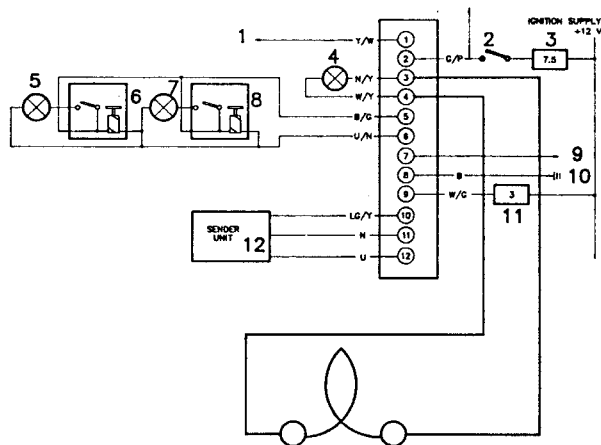

Figure 10
2. Connect a 12 volt test lamp between the terminals as shown in figure 10